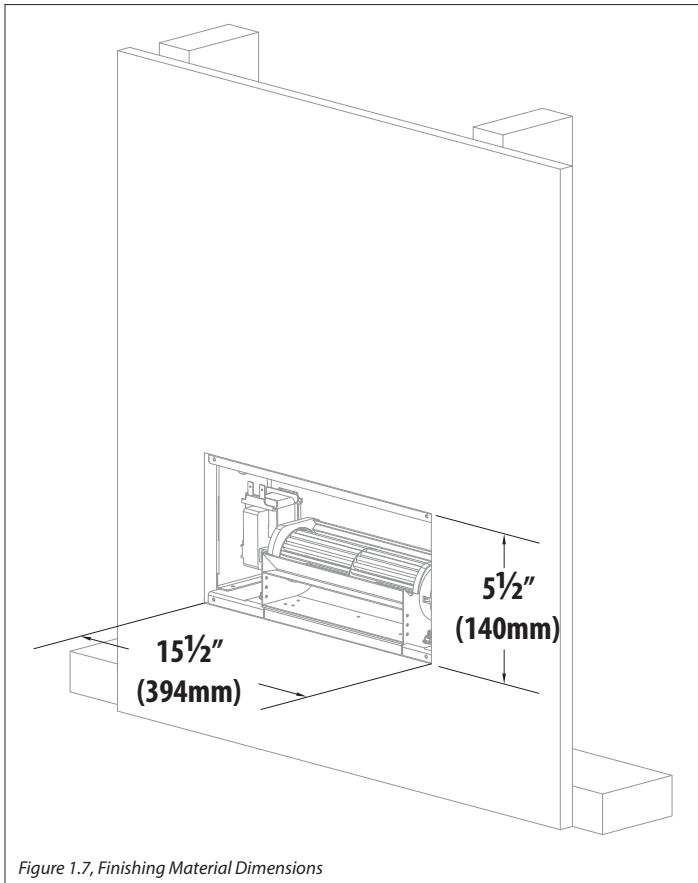

Figure 1.7, Finishing Material Dimensions
- Figure 1.7 on the following page shows finishing clearances.